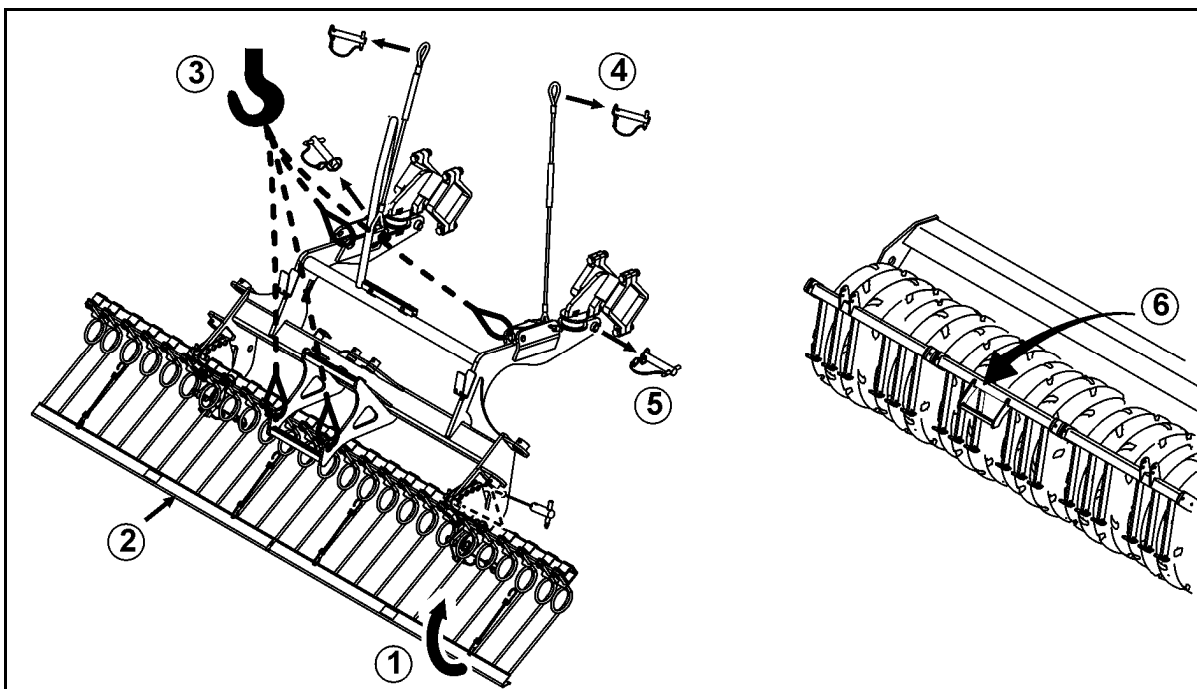

Fig. 32
1. Raise the harrow units, insert the bolt into the bore and secure using the clip pin (Fig. 32/1).
2. Install traffic safety guards (Fig. 32/2).
3. Disconnect the wire ropes on the machine side (Fig. 32/3).
4. Pull out the two bolts of the rear harrow (Fig. 32/4).
5. Lift the rear harrow off the machine using a crane (Fig. 32/5).
6. Mount scraper frame with the step (Fig. 32/6).